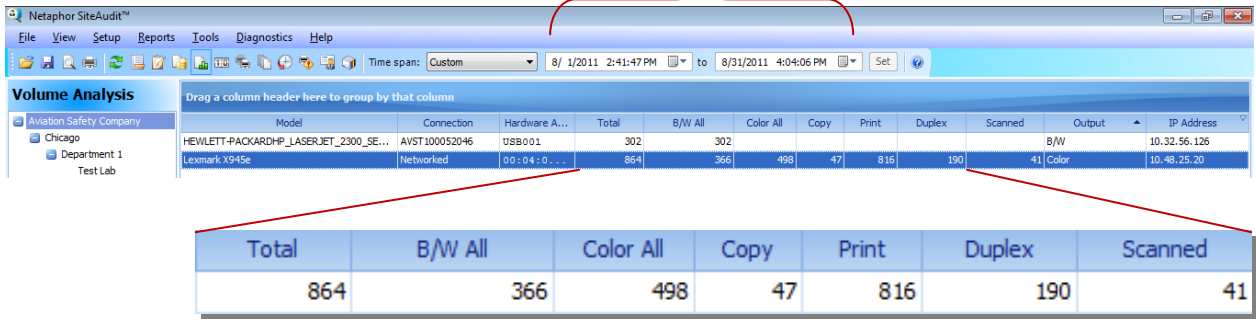

Figure 2: Monitored Counts
**Figure 2** illustrates the monitored counters for a local printer (HP LaserJet 2300) and a networked printer (Lexmark C945e) for the selected time period August 2011. Specifically, the Lexmark X945e (an MFP) is utilized mostly as a color printer. Only 5% of output is by copy and over 55% is color print and duplex is less than 20% of output. A quick analysis suggests a cheaper color printer with mandatory duplex and with copying consolidated elsewhere would better serve the cost goals. In short, monitored counters provide the analysis data to formulate more cost effective output strategies.